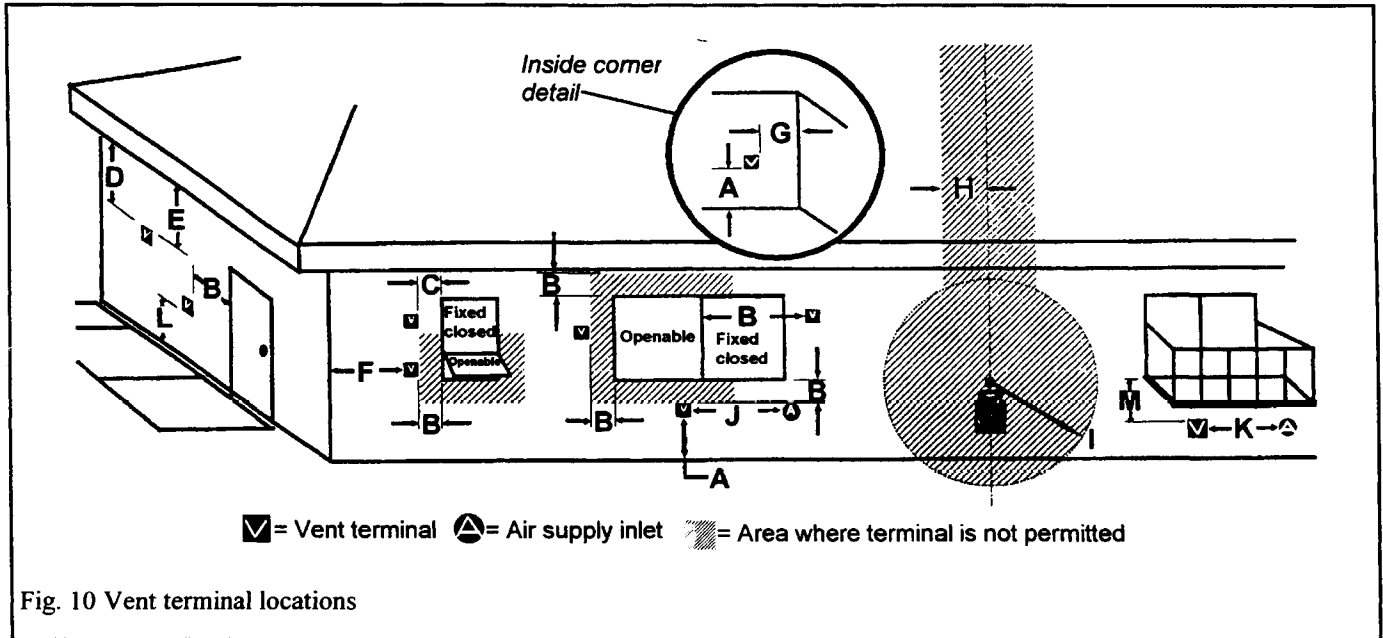

Fig. 10 Vent terminal locations
- The minimum clearances from this terminal that must be maintained when located on an outside wall are shown in figure 10. Any reduction in these clearances could result in a disruption of the airflow or a safety hazard. Local codes or regulations may require greater clearances.
| KEY | VENT TERMINAL LOCATIONS - MINIMUM DISTANCES See figure 10 | MINIMUM CLEARANCE | |